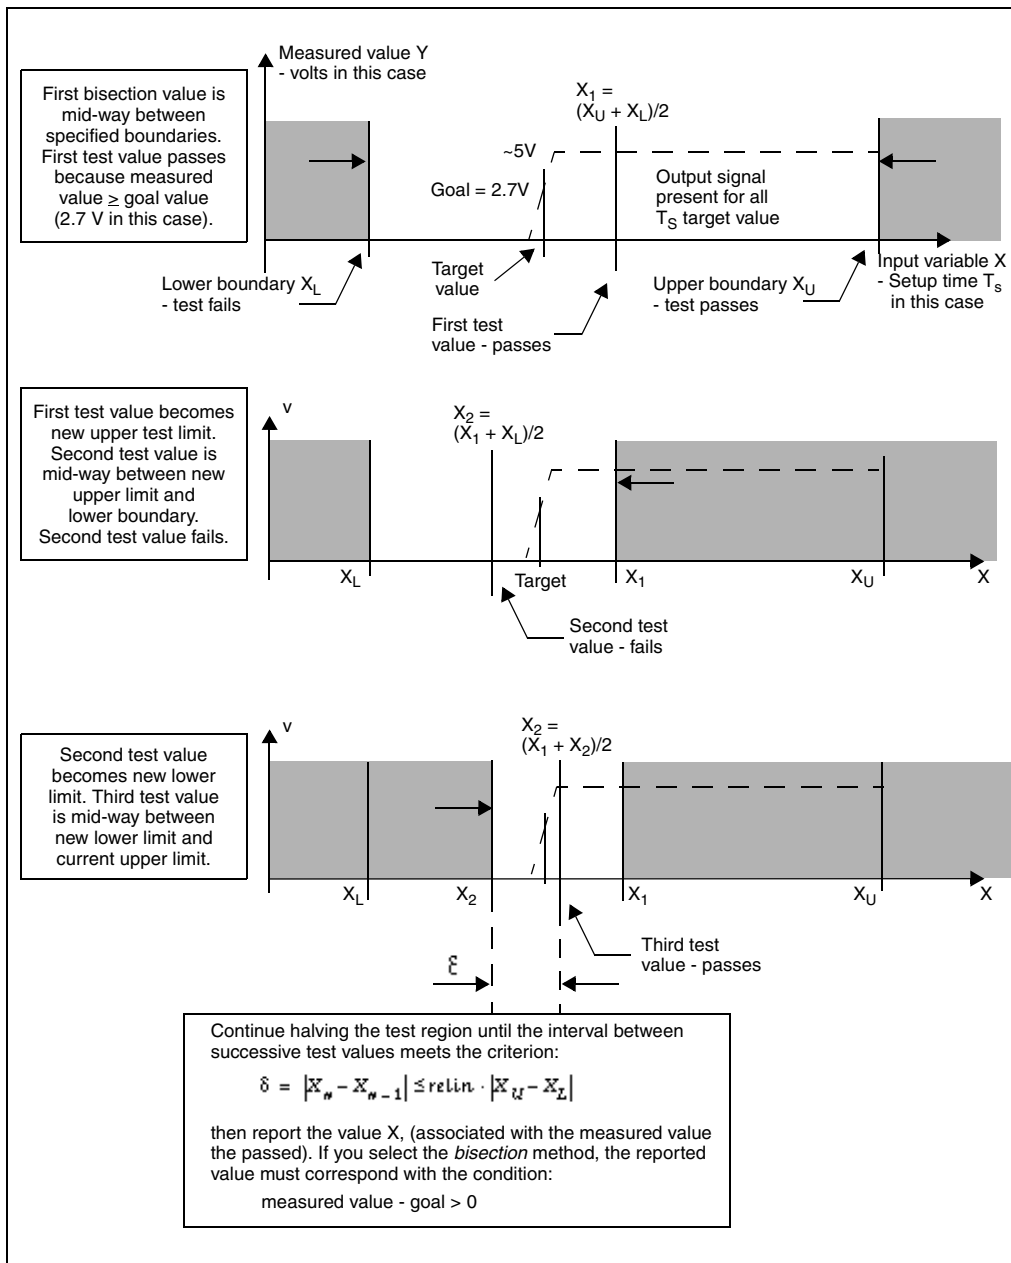

Figure 113 Bisection Example for Three Iterations
5. To start the binary search you specify the lower and upper boundaries. The program tests the point midway between the lower and upper boundaries (see Figure 113 on page 635).
Figure 113 on page 635 and Figure 114 on page 636 show the results of this demo. HSPICE or HSPICE RF does not directly optimize the setup time, but extracts it from its relationship with the `DelayTime` parameter (the time before the data signal), which is the parameter to optimize.